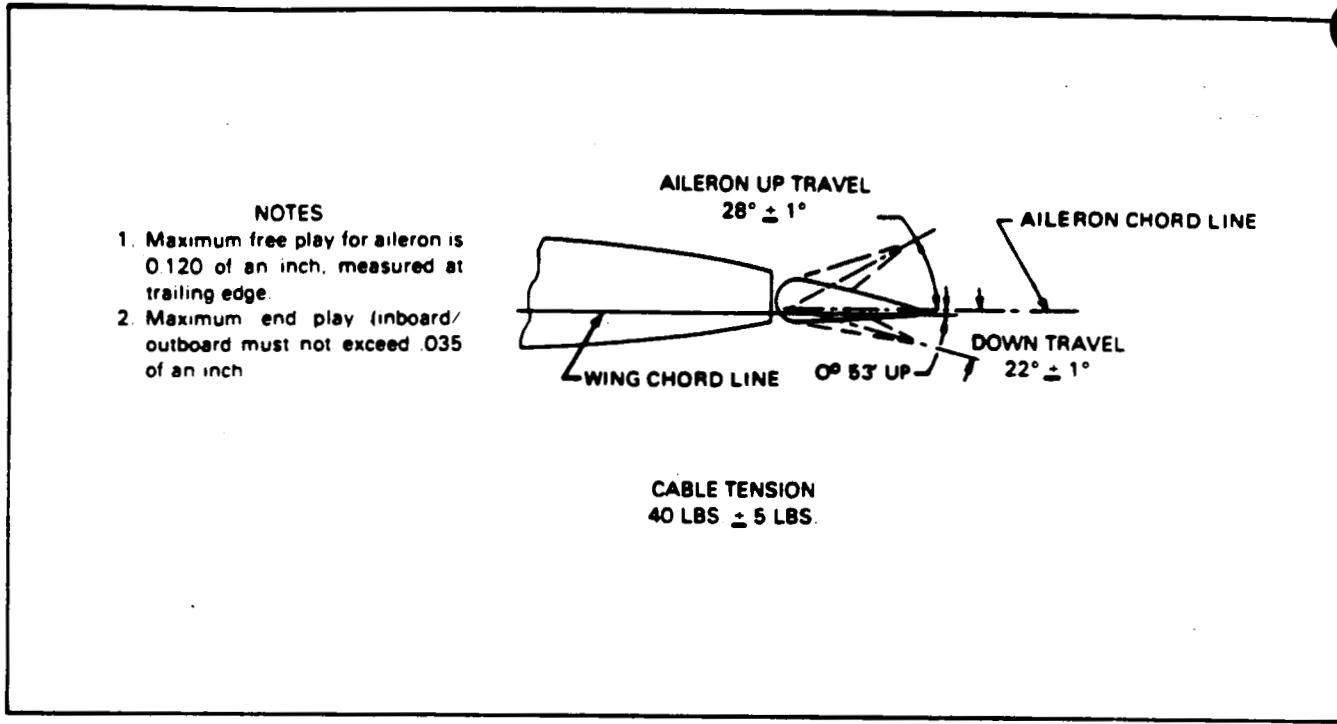

Figure 27-4. Aileron Rigging
3. Adjust primary and balance cable tension as given in Figure 27-4 by the following procedure:
4. Check the ailerons for correct travel from neutral per dimensions given in Figure 27-4 by the following procedure: